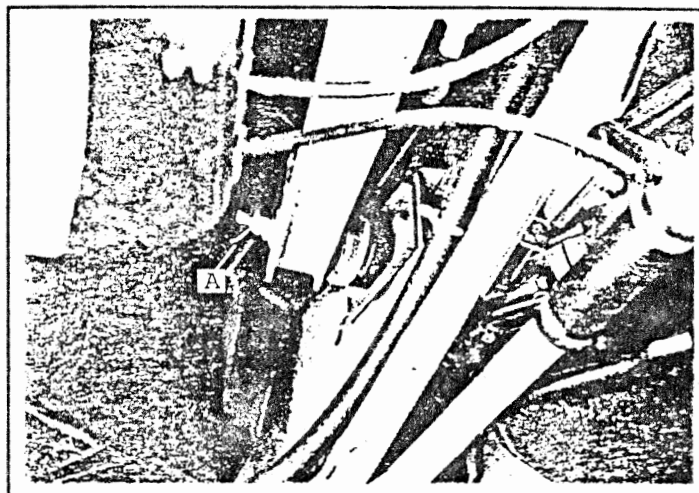

FIGURE 3
2. Loosen trailing arm pivot bolt "A". **FIGURE 3.**
4. Torque trailing arm pivot bolt "A" **FIGURE 3** to 75NM (55 ft. lbs.).